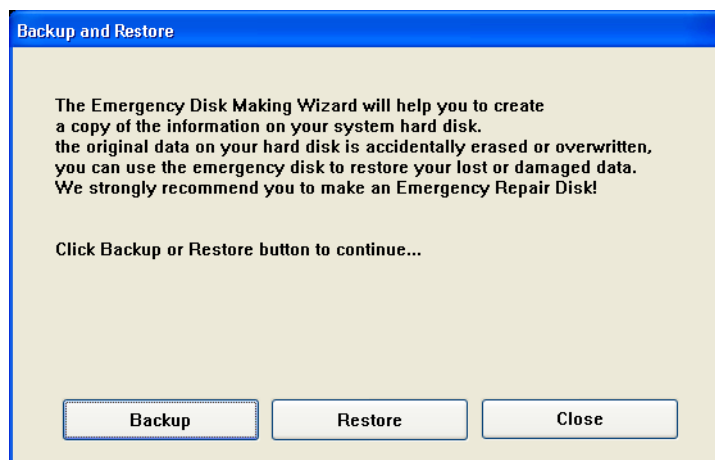

Figure 8-225 Backup and Restore Window
- 1.) From Figure 8-225, press “Restore” button.